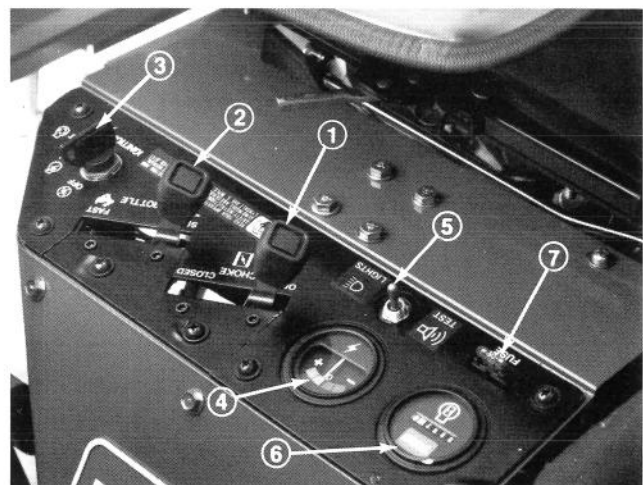

**Figure 15**
**TRACTION AND STOPPING PEDAL** (Fig. 14) –Traction pedal has three functions; one to make the machine move forward, two, to move it backward and three, to stop machine. Depress top of pedal to move forward and bottom of pedal to move backward or to assist in stopping when moving forward . Also, allow pedal to move to neutral position to stop machine. For operator comfort, do not rest heel of foot on reverse, when operating forward (Fig. 15).